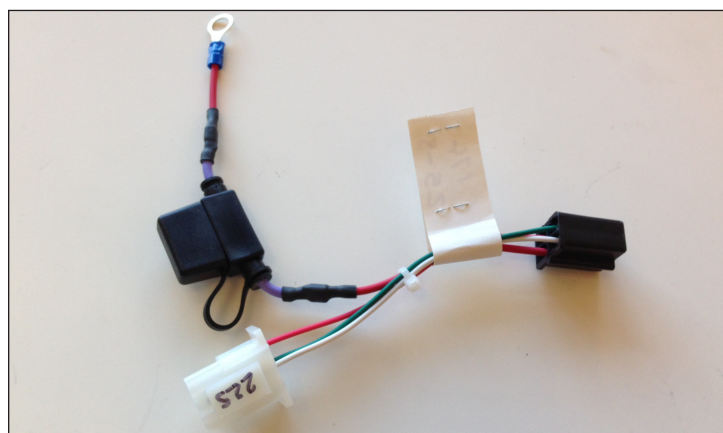
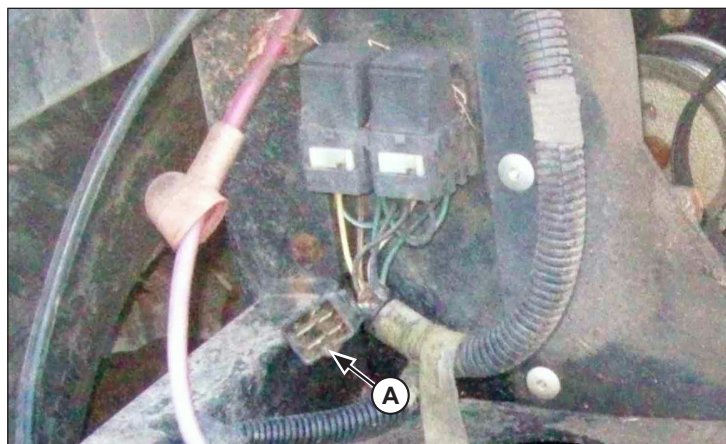

Figure 2. Harness Adapter.
Figure 1. Four Pin Engine Connector on Application.
1. If your Exmark/Toro application features a four pin engine connector (A) in Figure 1, the enclosed harness adapter shown in Figure 2, should work to connect the new EFI engine to the Exmark/Toro wiring harness.